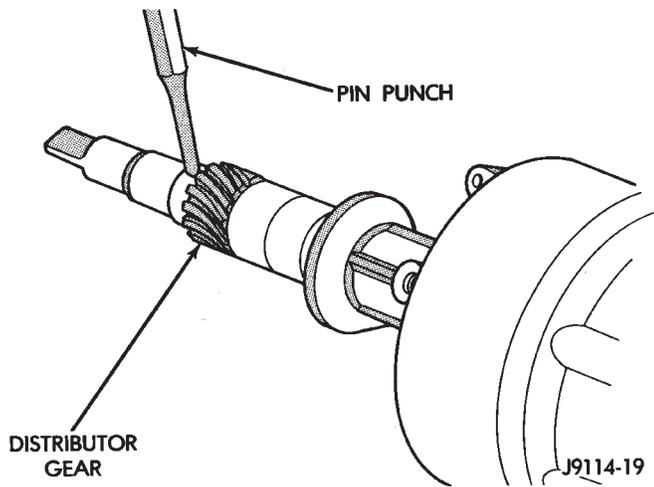
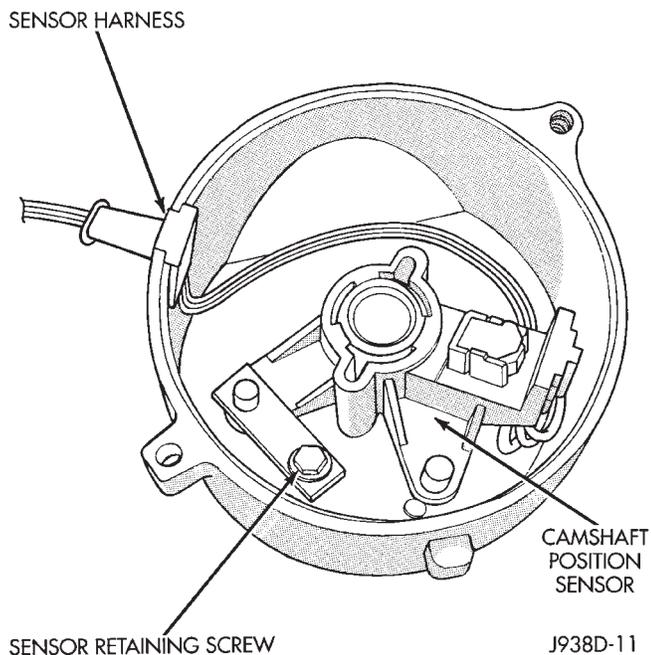

Fig. 3 Distributor Gear—Removal/Installation
Fig. 4 Camshaft Position Sensor
(3) Mark the position of the gear and the shaft in line with the roll pin. The gear **MUST** be installed back to its original position on the distributor shaft.
(4) Using a small pin punch and hammer, remove the distributor gear roll (spring) pin (Fig. 3).
(5) Lightly tap the end of the distributor shaft until distributor gear and thrust washer are removed.
(6) Slide the distributor shaft out of the distributor housing.
(7) Remove the camshaft position sensor mounting screw and positioning arm (Fig. 4).
(8) Slide the wire harness grommet out of the distributor housing. Remove the camshaft position sensor.